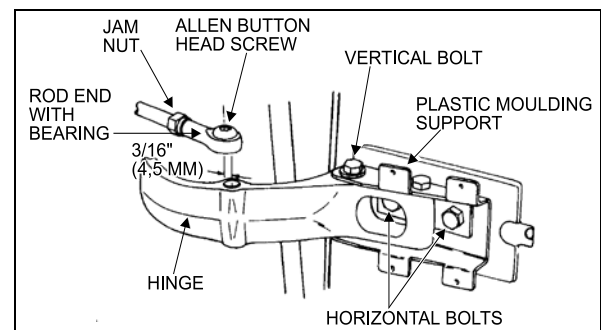

FIGURE 24: UPPER DOOR HINGE
- Remove the Allen button head screw and the washer retaining the rod end with bearing to the upper hinge. See figure 24.